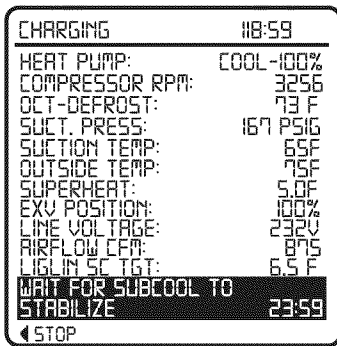

Fig. 9 - Liquid Line Subcooling Target
- Wait for the specified stabilization time, depending on lineset length. Compare subcooling at liquid line service valve to Liquid Line Subcooling Target as shown CHARGING screen (LiqLin SC TGT) (see figure 9).